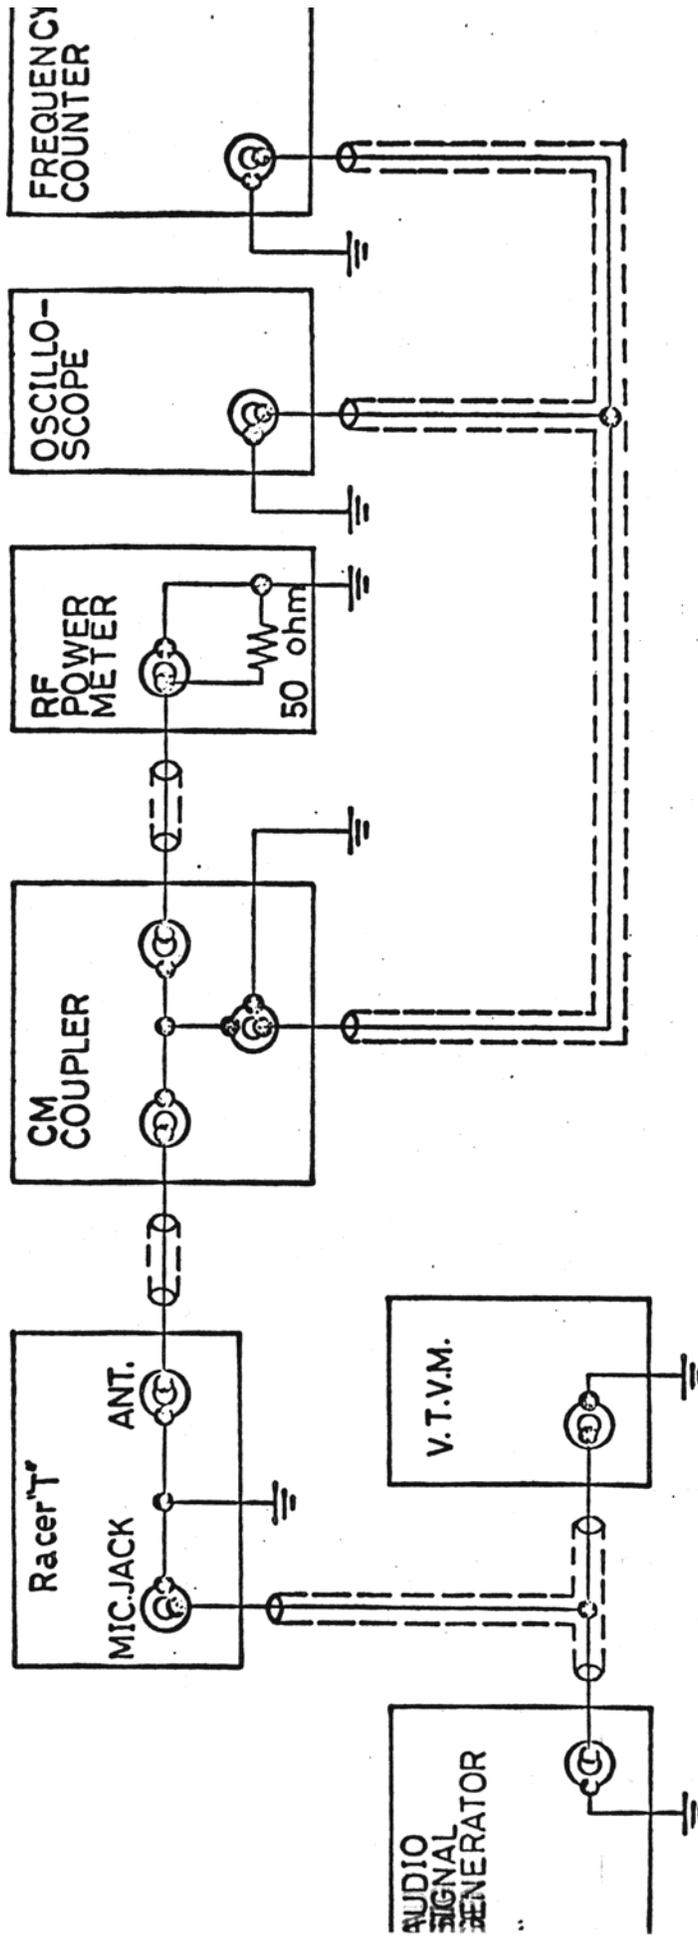

Figure 1
2. Allow test equipment and set at least fifteen (15) minutes to warm up before starting the alignment.
5. Connection of test equipment is shown in TRANSMITTER TEST EQUIPMENT SET-UP DIAGRAM. (See Figure 1.)